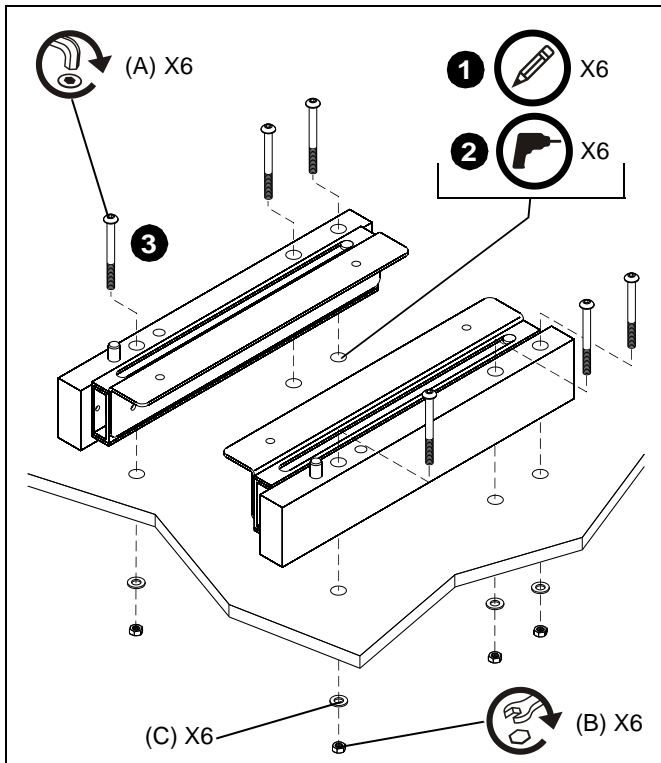

Figure 1
3. Orient left (k) and right (l) glides and place over holes in mounting surface. (See Figure 1)
4. Insert six button head cap screws (a) through glides, the mounting surface, and six washers(c). (See Figure 1)
5. Secure glides to mounting surface using six 1/4-20 Nuts (b). (See Figure 1)